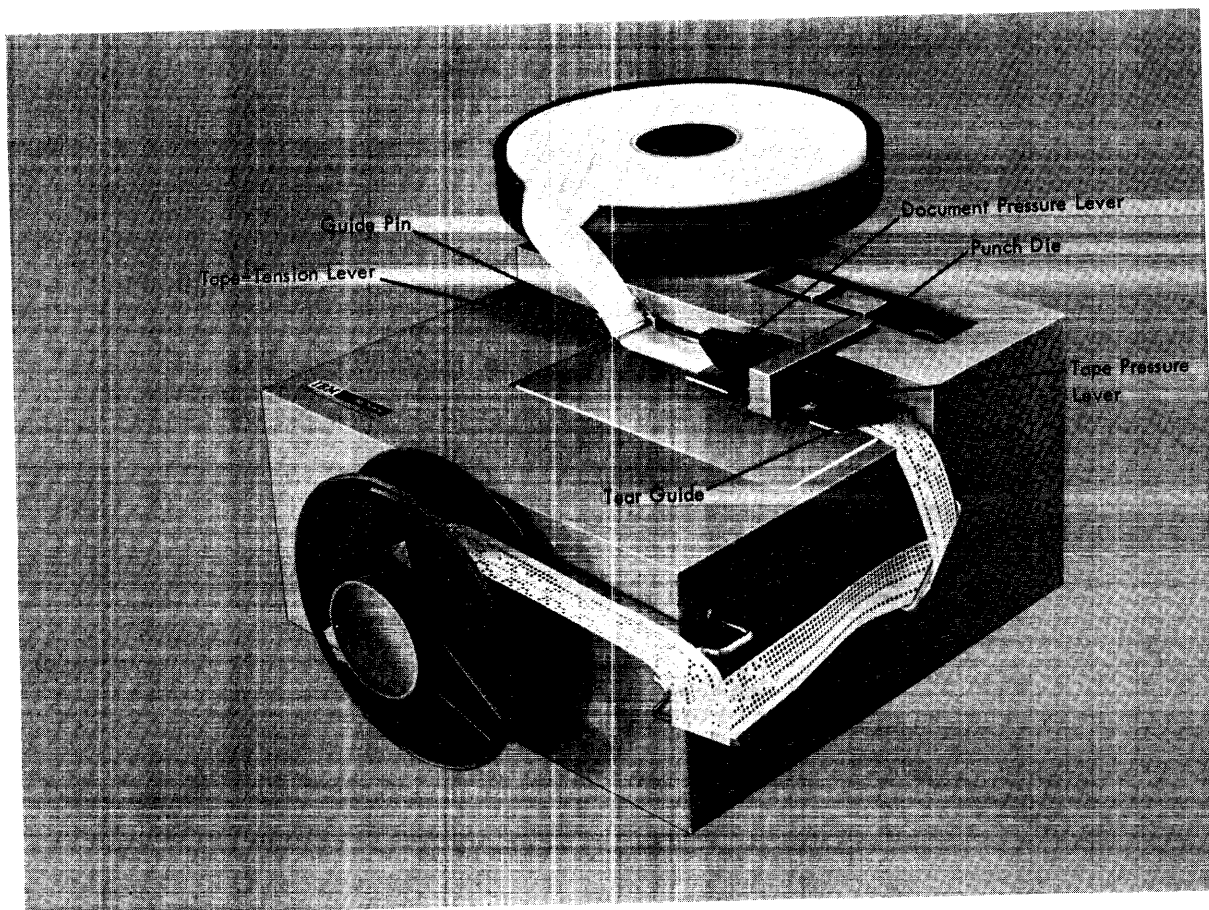

Figure 30. 1055-Tape Insertion
6. The tape is then threaded around the guides (Figure 30) on the side of the unit and inserted in the take-up reel slot to permit counterclockwise winding of the tape.